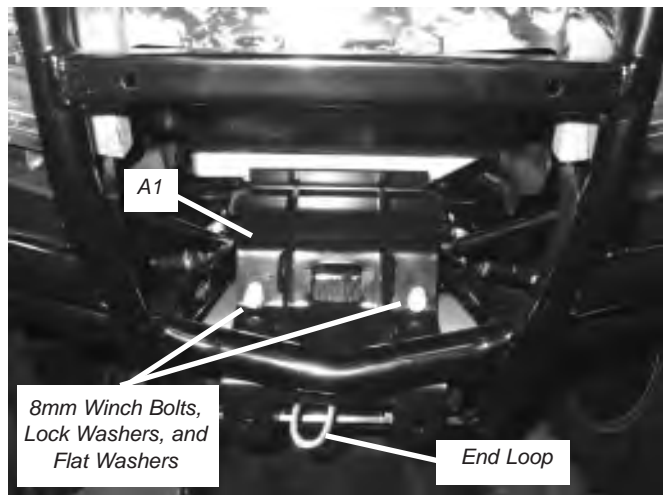

Figure 11 Upper Mounting Bracket Installation
- Place the upper mounting bracket (A1) onto the vehicle frame, figure 11. Fasten the upper mounting bracket to the winch with two 8mm-1.25 x 20mm bolts and lock washers supplied with the winch. Place a provided 8mm flat washer (B2) between each lock washer and the upper mounting bracket. Do not tighten at this time.
- Route the wire rope between the upper and lower mounting brackets (A1) & (A2), so that the end loop is visible from the front, figure 11.